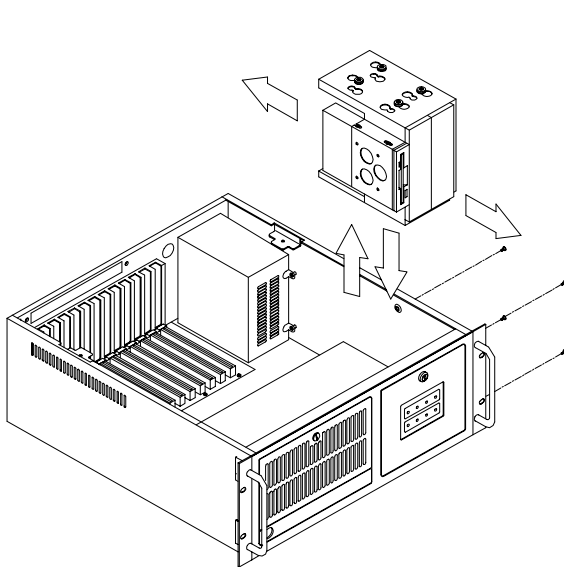

Figure 2-3: Removing the drive bay
1. When facing the front panel, you will see four outer screws on the right side of the chassis. They mount the shock-resistant drive bay. Remove these screws. Slide the drive bay toward the rear, to a location where it is not obstructed by the upper rim. Lift the drive bay free of the chassis. See Figure 2-3 below.